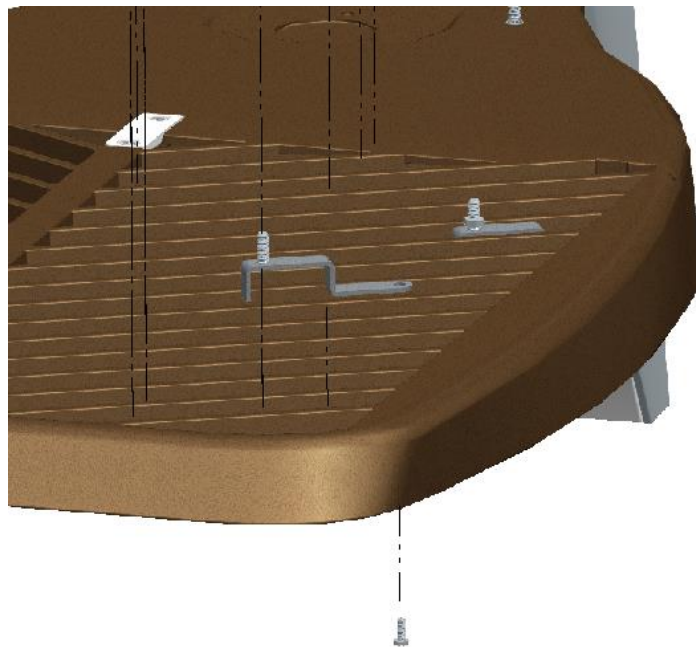

Figure 2 Small Bracket Assembly
1. Attach the 4 smaller brackets (A) to the location as shown in *Figure 2* using the 4 provided screws (B). Ensure that the PEMs on the smaller bracket (A) are pointing up as shown.
2. Align the larger bracket (C) onto the four PEMs of the smaller brackets (A), ensuring that the PEMs on the larger bracket (C) are also pointing upwards. Secure with the locknuts (D) provided.
3. Align the bird spikes (E) onto the four PEMs of the larger bracket (C) as shown. Use the remaining locknuts (F) to secure the bird spikes (E) to the larger bracket (C).
4. Inspect the fixture to make sure all 4 screws (B) and locknuts (D&F) are fully tightened, and the bird spikes brackets are rigid (A&C).